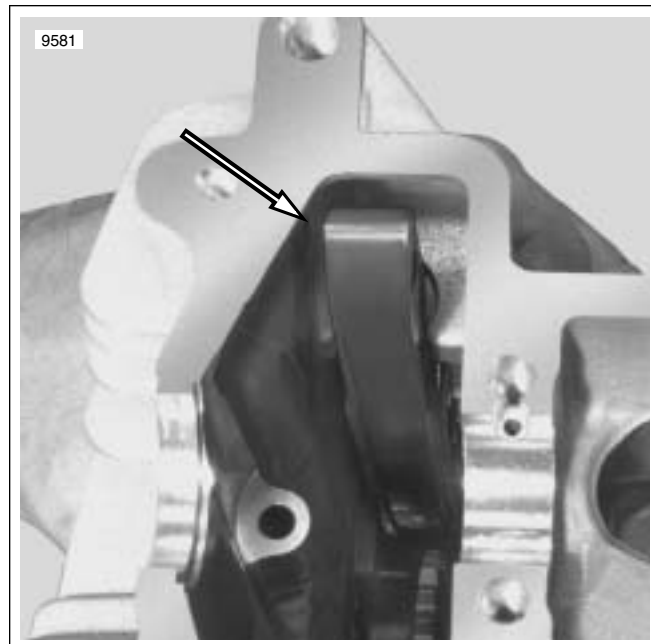

Figure 3-252. Tensioner Position In Cylinder Head
2. See Figure 3-252. Make sure tensioner is locked in head as shown.